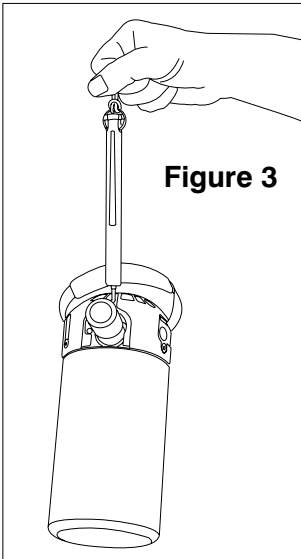

Figure 3
3. Attach the ball end of the contents scale to the Portable System’s engagement location (**Figure 3**) by sliding ball into slot above the fill connector.